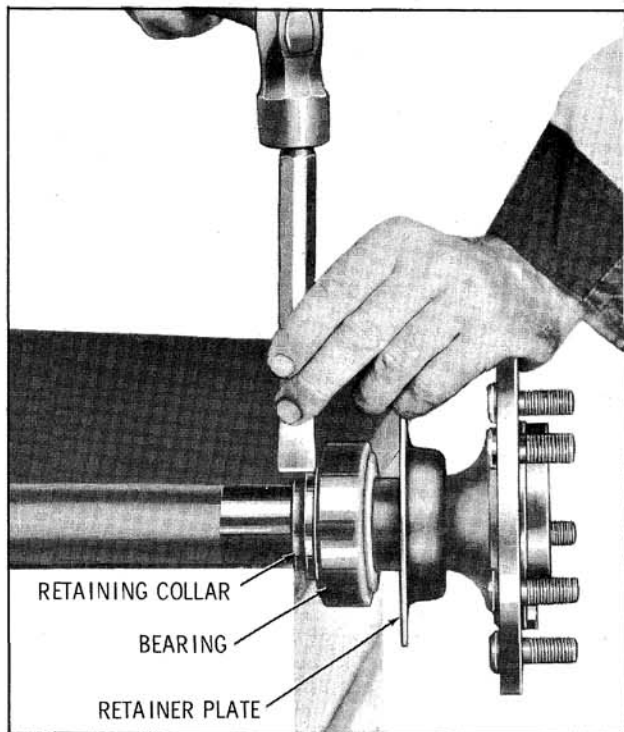

Fig. 10-6 Removing Bearing Retainer
1. Nick bearing retainer in three or four places with a chisel, deep enough to spread ring. Retainer will then slip off. (Fig. 10-6)